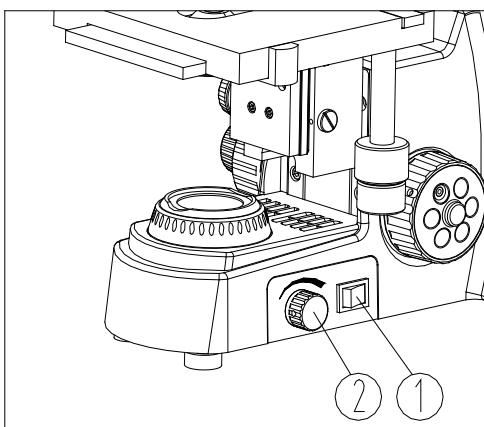

Fig. 7
1. With the microscope turned on, rotate the light adjustment knob ① until the illumination is comfortable for observation. Rotate the light adjustment knob clockwise to raise the voltage and brightness. Rotate the light adjustment knob counterclockwise to lower the voltage and brightness (see Fig. 7).